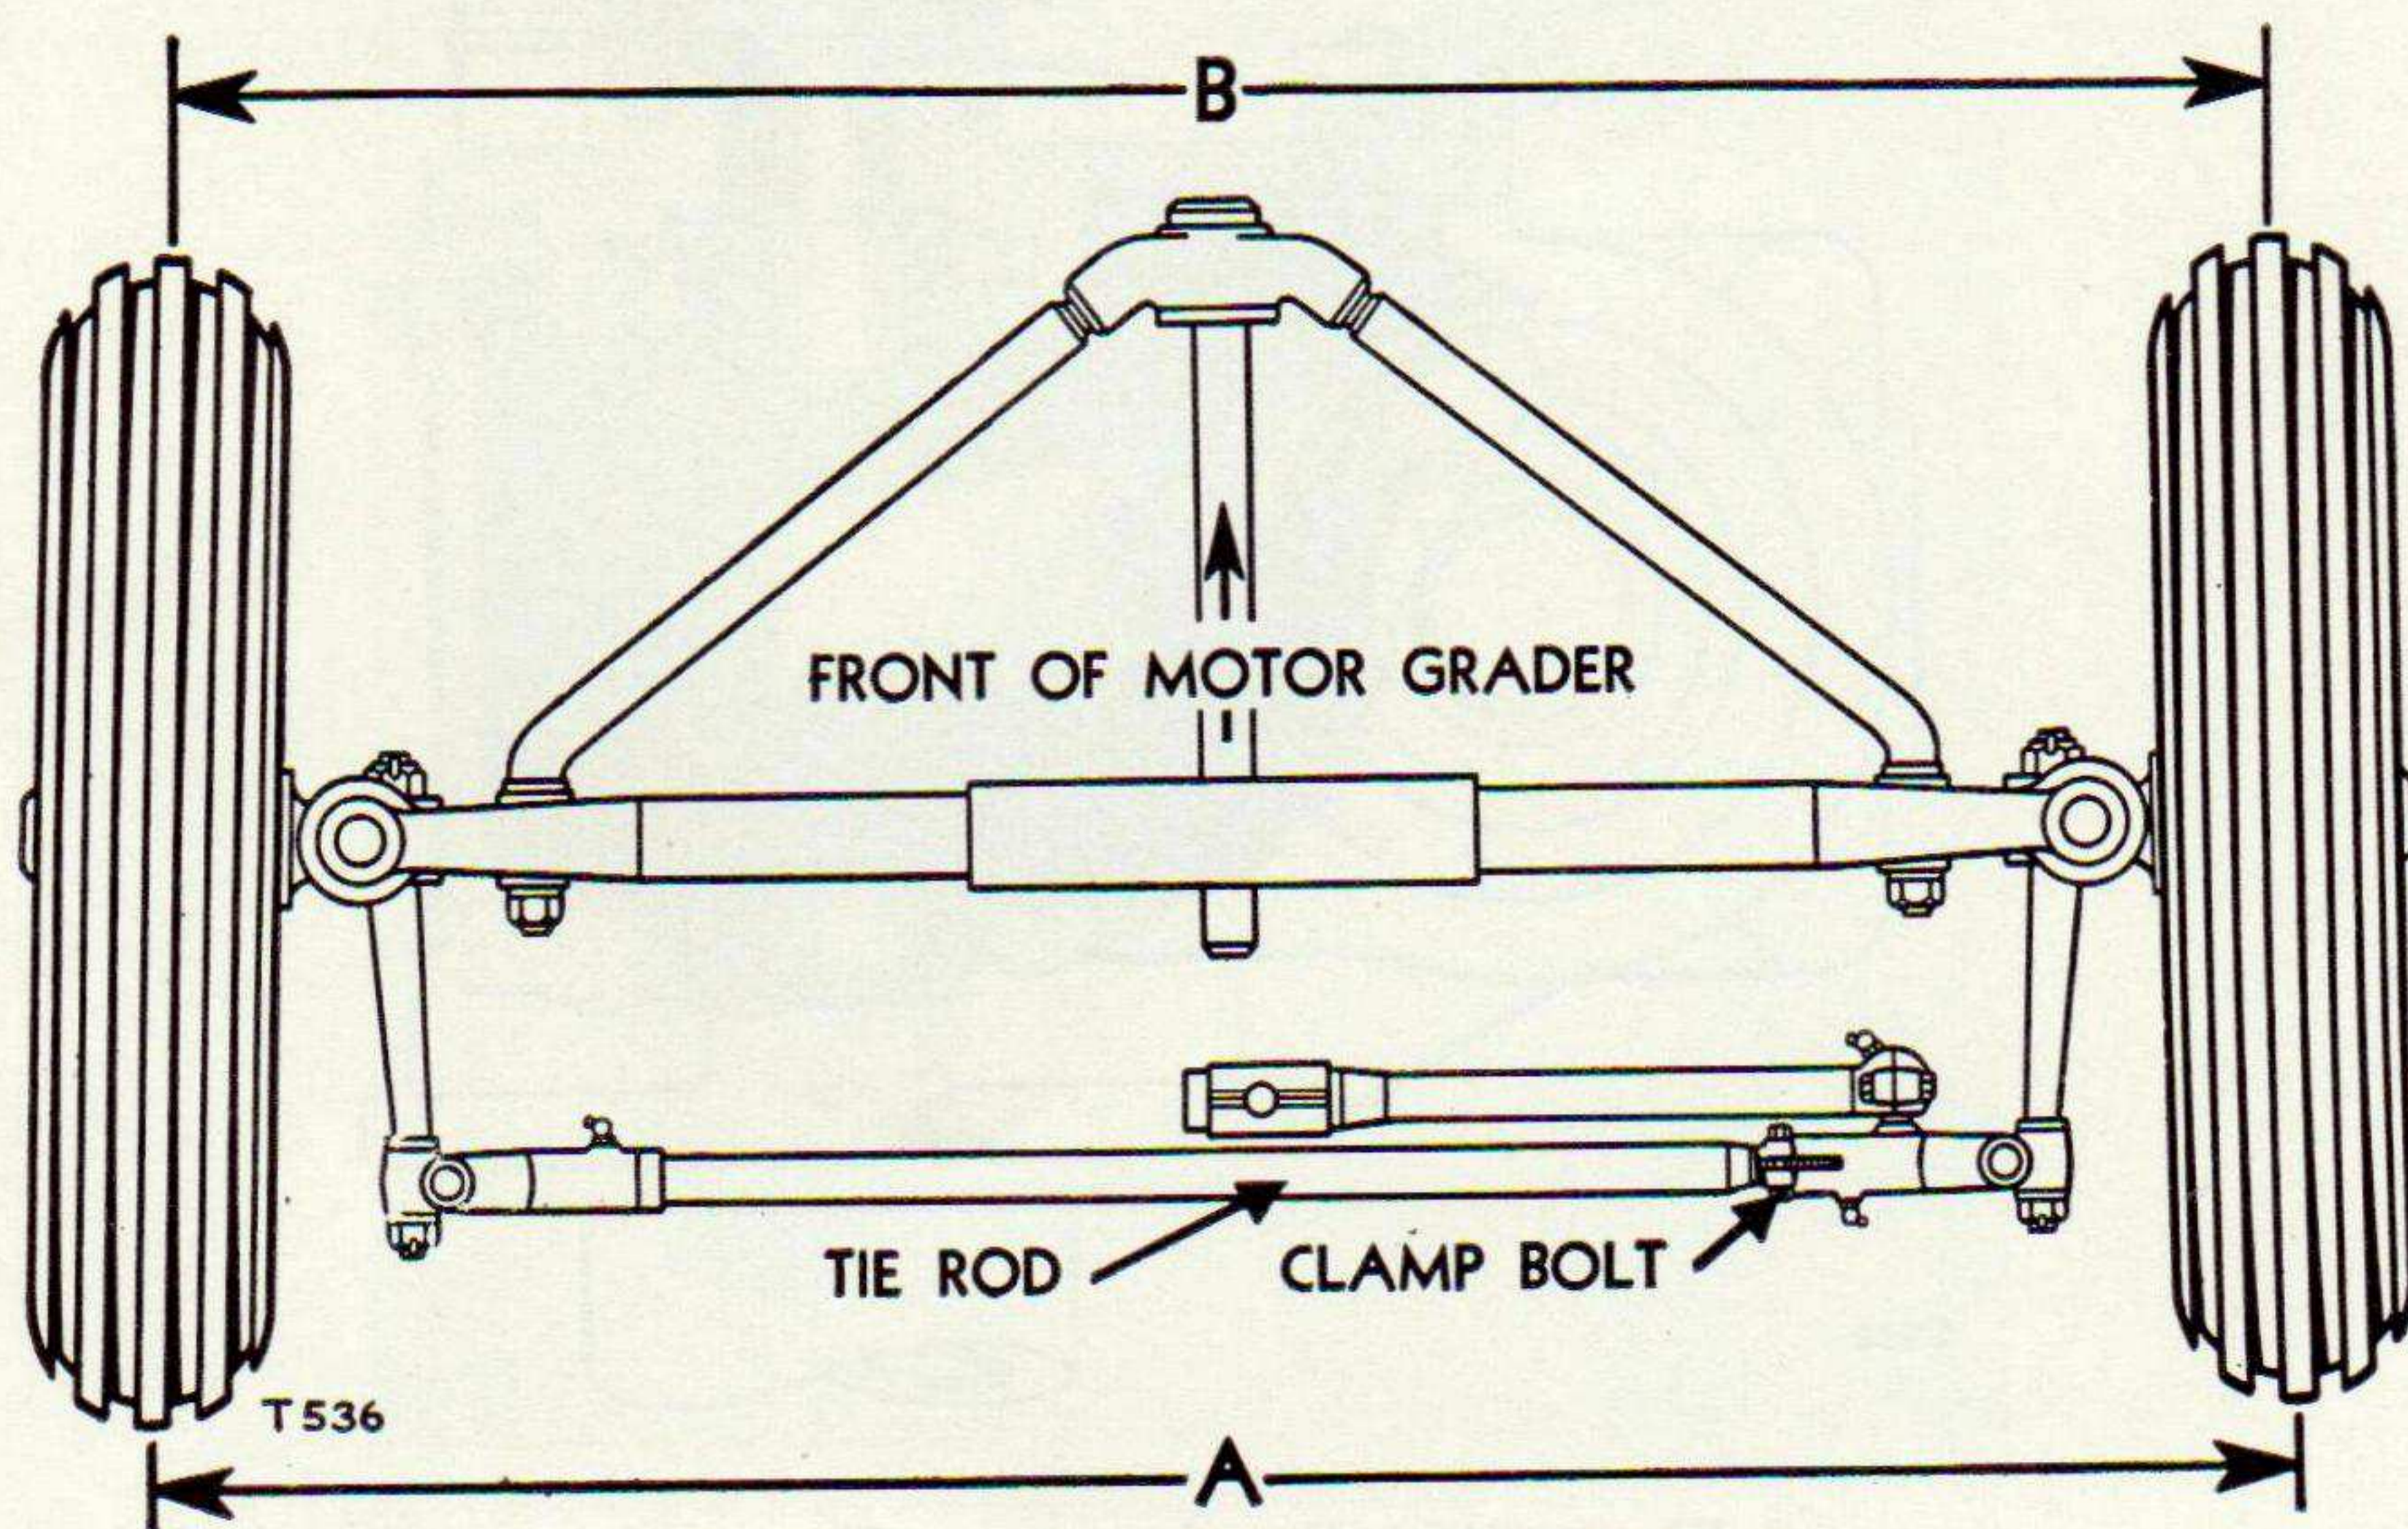

Figure 115. Front wheel toe-in adjustment.
#### b. FRONT WHEEL TOE IN ADJUSTMENT. (See fig. 115.)
- (e) Measure the distance between the two marks at the front. The distance in front (B) should be one-fourth inch less than the distance in back (A).
(3) *Adjusting procedure.* (See fig. 115.)